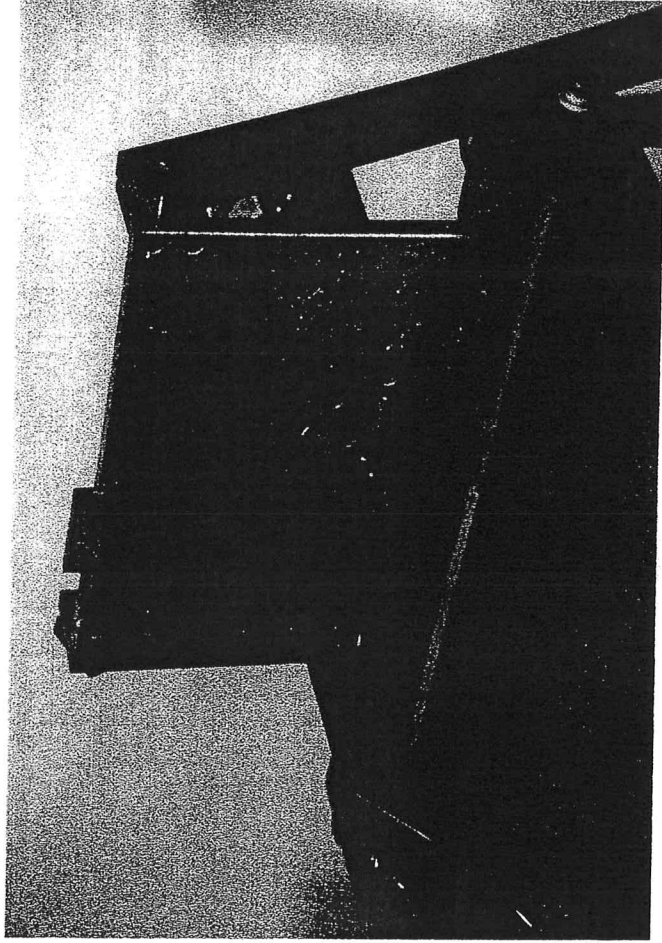

Fig. 6
4. Lower the table 6 turns. Stand workpiece B on its end and cut the socket groove. (fig. 6)